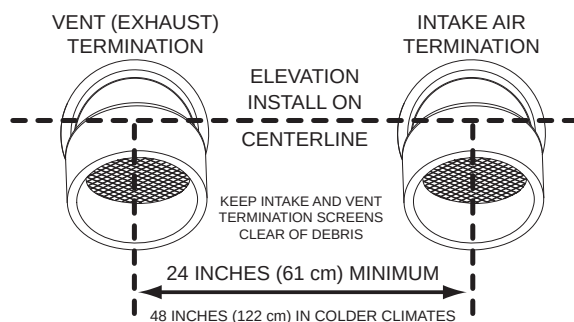

Figure 25. Side-Wall Termination - Direct Vent:
4. If installing both an intake air and vent termination in a Direct Vent configuration through a sidewall there must be a minimum of 24 inches (61 cm) separation, measured on vertical center line, between the intake air and vent terminations, see **Figure 25**.
5. If installing both intake air and vent terminations in a Direct Vent configuration through a sidewall the intake air and vent terminations must be installed at the same elevation measured on horizontal center line - see **Figure 25**.
- However, the distance between the closest vent and intake air terminations must be a minimum of 24 inches (61 cm). In colder climates this separation should be increased to at least 48 inches (122 cm). See **Figure 25** (page 26).